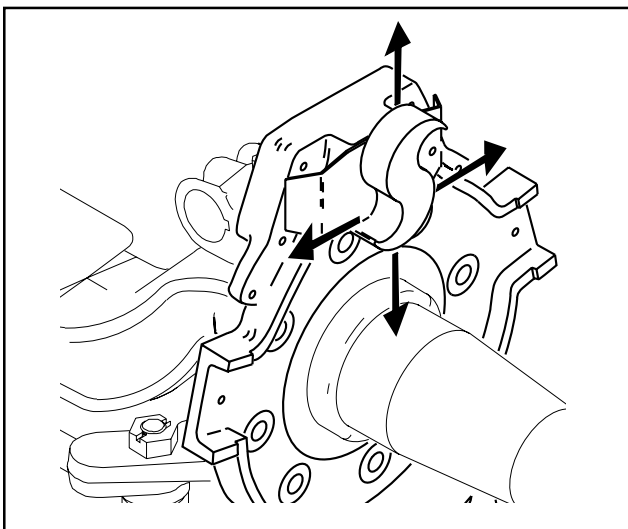

Figure 5
2. Inspect camshaft bushings for signs of wear. Bearing surfaces should be smooth and free of any pitting or fractures. Insert camshaft and measure looseness up and down side to side at both ends with a dial indicator. If more than .030" movement, replace bushings and/or camshaft. See Figure 5.